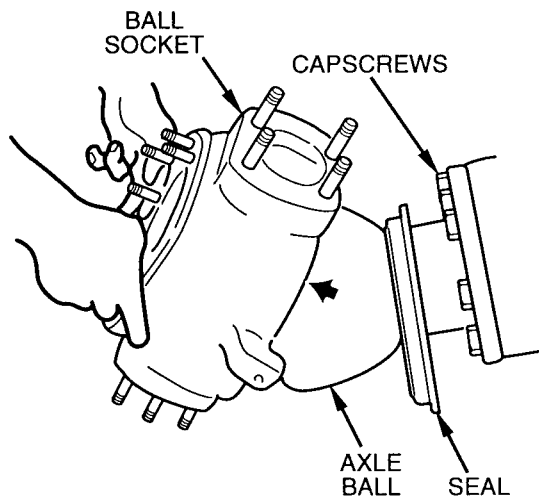

Figure 18 Installing Axle Ball Socket
4. Tip ball socket (16) and install over axle ball (2). (See Figure 18).